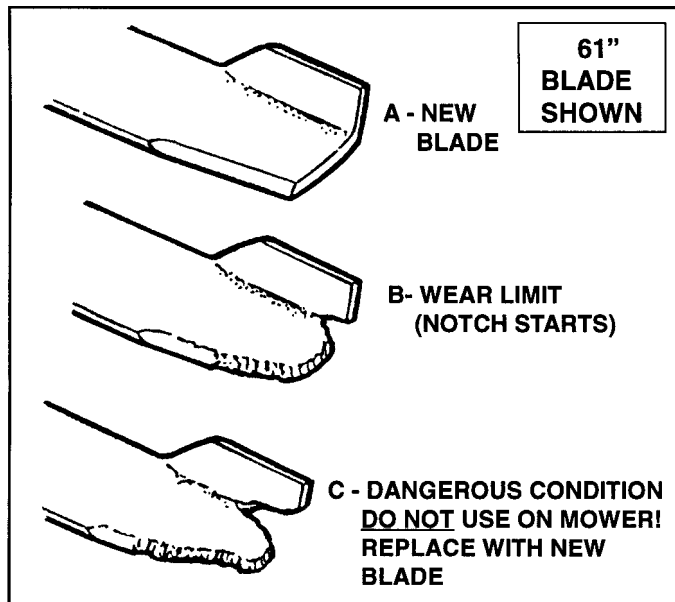

FIGURE 9.1
- A. When performing Service on a Mower Unit, be sure to check the Cutting Blades for damage or signs of excessive wear. See Figure 9.1 for Blade wear limits.
Never allow a customer to take a mower out of your repair shop with a Cutting Blade worn to the extent shown in Illustration "C" of Figure 9.1, without warning that customer of the danger that a tip could fly off and cause either personal injury or property damage.
- C. Clean and inspect each Blade for excessive wear and damage. Refer to Figure 9.1.